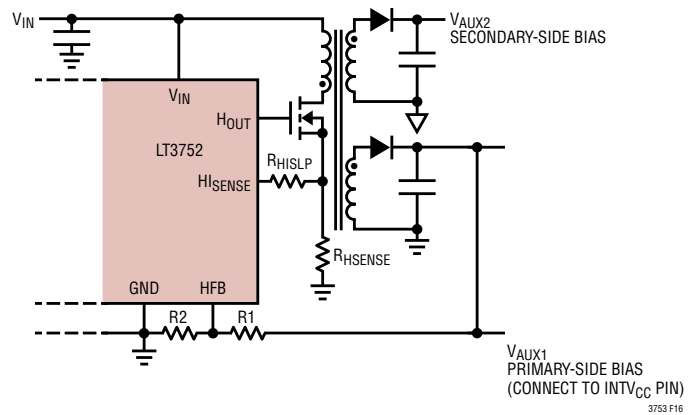

Figure 16. LT3752 Forward Controller with Additional Integrated Housekeeping Controller for Primary-Side and Secondary-Side Bias
The best method for generating an auxiliary supply, that is available even for  $V_{OUT} = 0V$ , is to have a housekeeping controller integrated into the primary-side IC (Figure 16). This gives the highest efficiency, most cost effective
- (1) Use a primary-side forward controller with integrated housekeeping controller to generate a secondary-side bias (Figure 16).